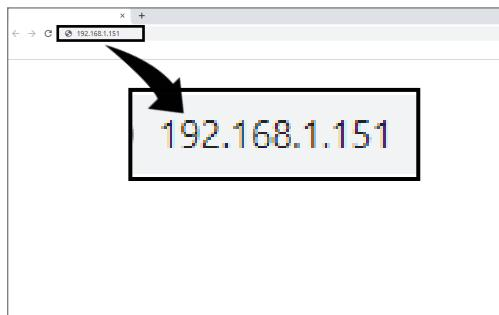

Fig 38. Type Default IP Address
2. Type the following default IP address into the URL field: **192.168.1.151** (Fig 38).